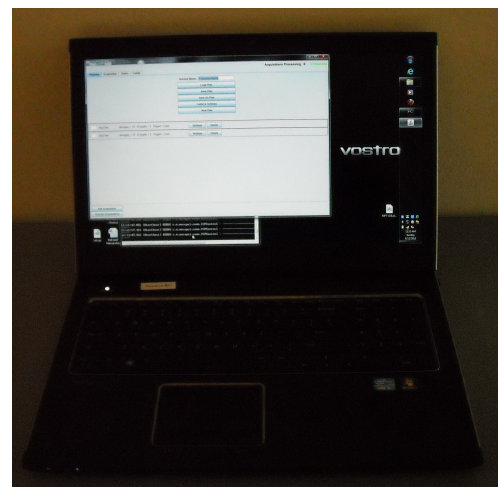

Figure 2: Images of an MPT Robust Computer and user laptop running MoCapUI.
3. A robust computer computer (figure 2), and
4. A user laptop computer (also in figure 2, user-provided).